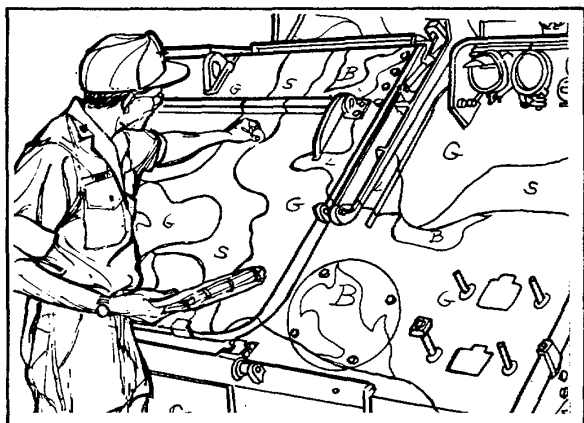

Figure 32. Applying Pattern with Chalk.
i. Outlining the camouflage pattern can be done in a variety of ways. Successful methods include freehand, template, wire-form and viewgraph, Figure 32.